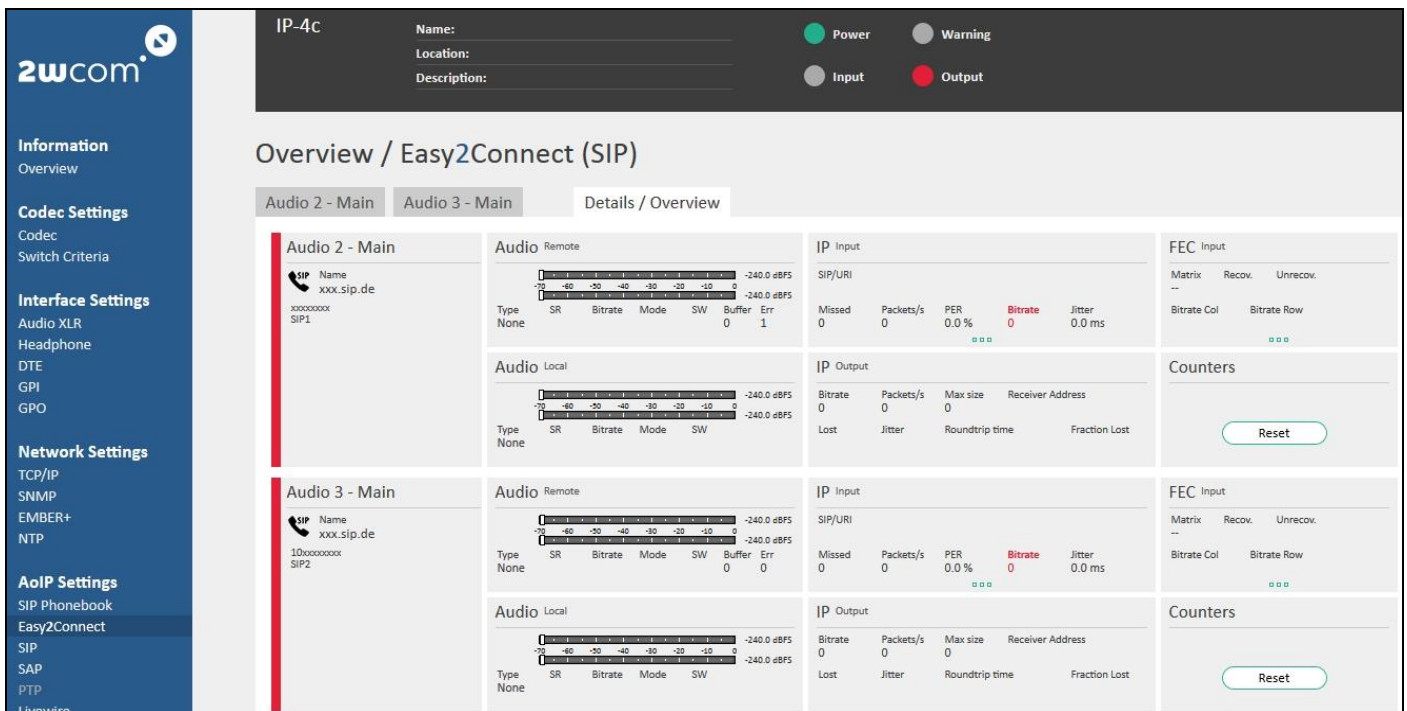

Figure 84: Overview – Details of the configured SIP connections and current data transfer
6. In the “Details/Overview” tab in the same menu you can see the details of the activated SIP connections for decoder and of the current data transfer (see Figure 84):